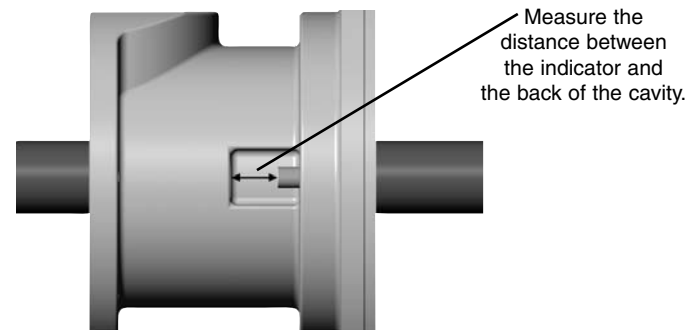

Figure 3. Initial seal ring indicator measurement
Before installing the joint body (1) an initial measurement needs to be taken from the seal ring indicator as show in Figure 3. This can be done using a snap gauge and calipers. Record this measurement for later use.